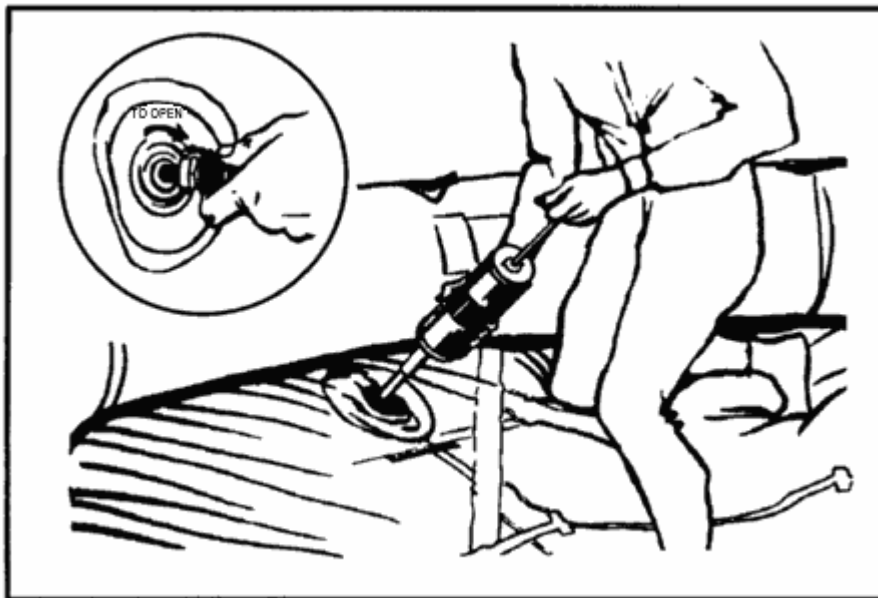

Figure 16-4. Inflating the 20-man raft.
- Check the raft for inflation, leaks, and points of possible chafing. Make sure the main buoyancy chambers are firm (well rounded) but not overly tight (Figure 16-4). Check inflation regularly. Air expands with heat; therefore, on hot days, release some air and add air when the weather cools.